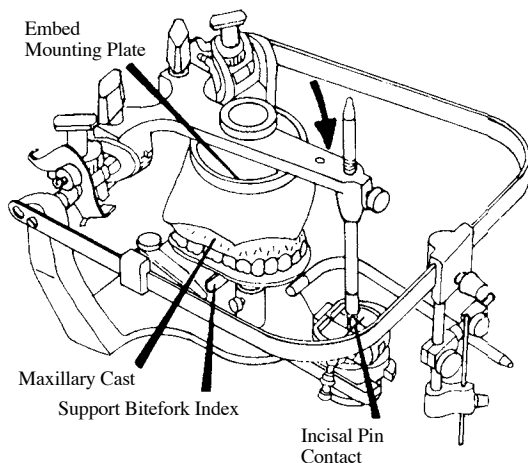

Figure 16
16. Seat and lute the maxillary cast in the occlusal index of the Bitefork, Figure 16.